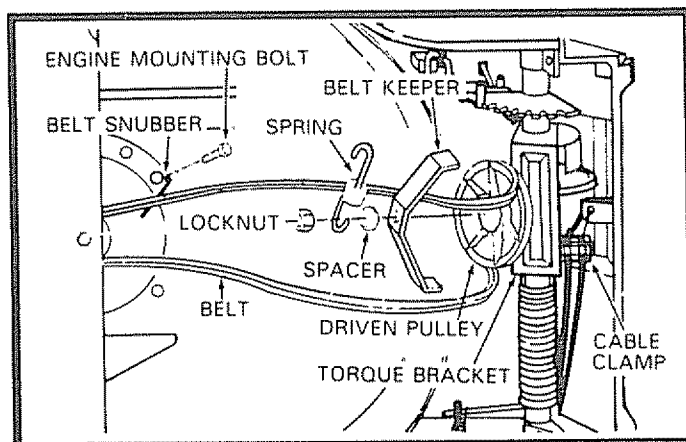

FIG. 24A
- Remove Cable Clamp and slip Cable Ends out of Mounting Slots (See Fig. 24A).
- Tilt Driven Pulley forward until it is resting against Torque Bracket (See Fig. 24A). Remove Locknut on top of Driven Pulley. This will allow you to remove the Belt Keeper and Belt.
- Loosen Bolt holding Belt Snubber (See Fig. 24A), and slip Belt off of Engine Pulley and over Blade.
- Place Belt on Driven Pulley and reinstall Belt Keeper, Spacer, Spring and Locknut as shown in Fig. 24A. (Do Not tighten Locknut at this time).